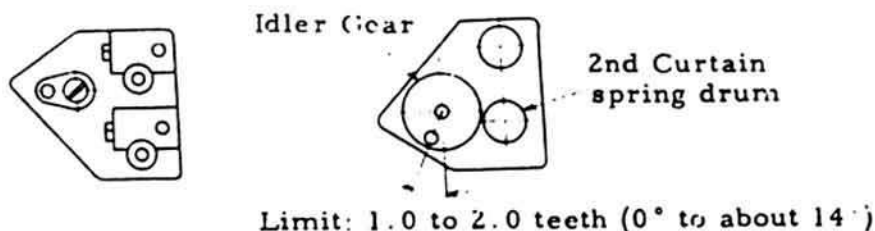

Fig. 21
1) Install the Gear at the position shown in Fig. 21 with Shutter released. Make adjustment by aligning the engaging position of Idler Gear (19-0626).